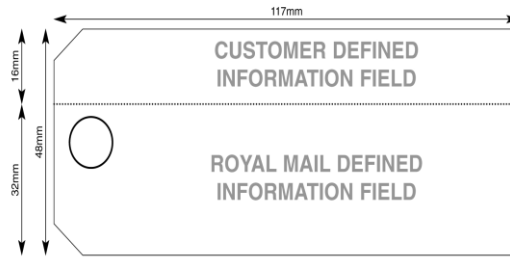

Figure 9: Bag label positioning guide
- Figures 9 and 10 below show the dimensions of our bag and Tray labels. Both show the area for use by you to input your label information to assist you with your own routing of the Mailing Items